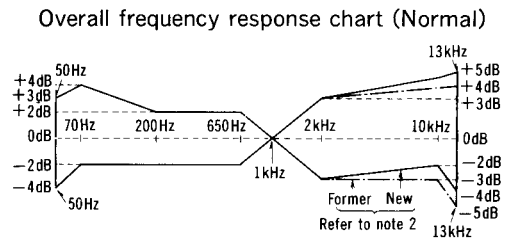

Fig. 19
9. Make sure that the measured value is within the range specified in the overall frequency response chart (Shown in fig. 19).